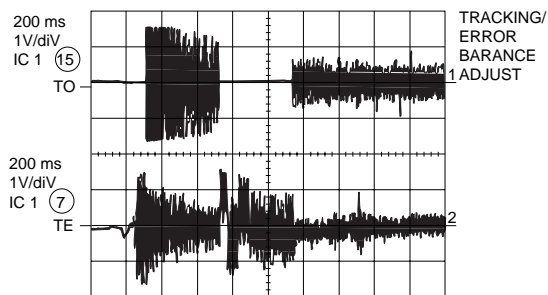

Figure 12-4
3. E/F balance (tracking error balance) (Fig. 12-4)